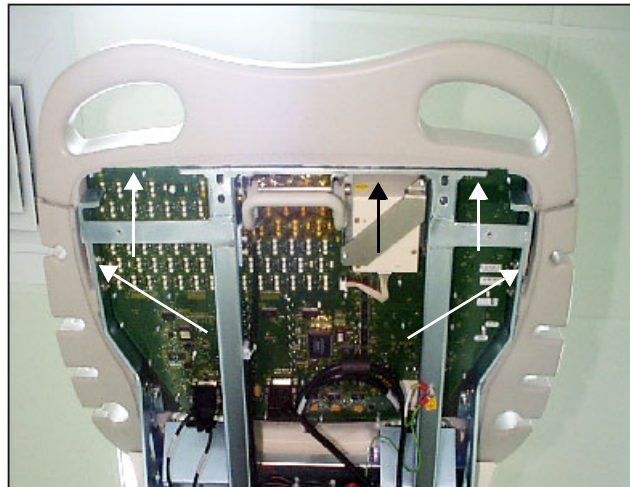

Figure 8-25 Front Handle Securing Nuts
- 4.) Remove the five 8mm securing nuts (located below the keyboard) that fasten Front Handle to the metal frame, as shown in Figure 8-25, above.
- 2) Fasten each side of the Front Handle beneath the keyboard with its 8 mm securing nuts (five in total), as seen in Figure 8-25, above.